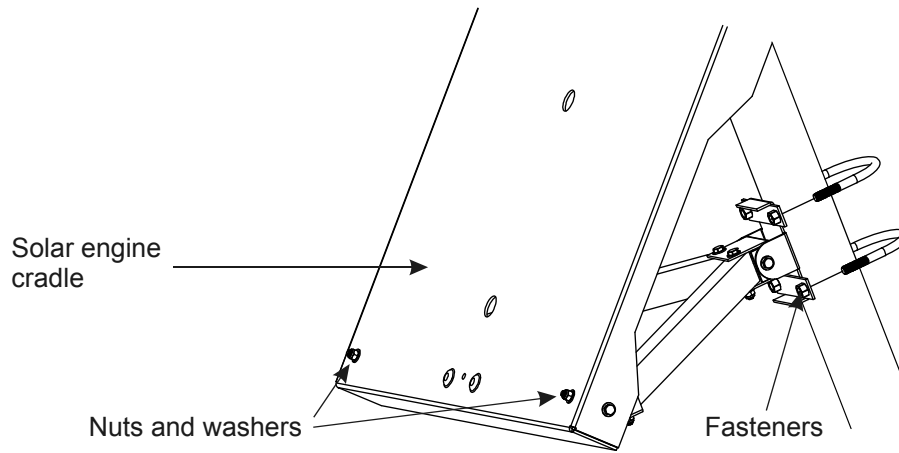

Figure 6-8: Installing the lower mounting bracket
7. Loosen the 7/16" fasteners, then center and align the lower bracket to the pole; see Figure 6-8.